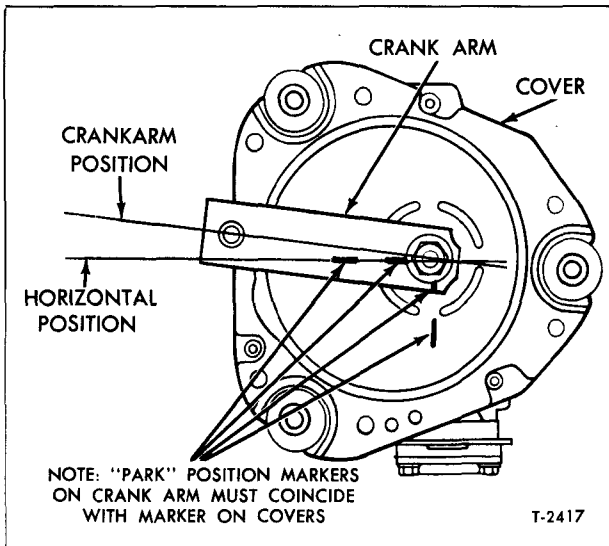

Figure 9—Crank Arm in "Park" Position (Typical)
IMPORTANT: Before locating the wiper arms on transmission shafts, make sure wiper motor was stopped in the "PARK" position (fig. 9). Operate motor, then turn switch off and allow it to stop in "PARK" position. If motor is not in "PARK" position and arms are installed, the arm travel may be restricted when motor is started, resulting in a blown fuse. In any case when motor is first started, be prepared to turn wiper switch off in the event wiper arms were installed out of proper sweep position. Reposition arms if necessary.
4. Before installing wiper arms, operate wiper motor momentarily, then turn it off which should rotate pivot shaft to "PARK" position (fig. 9).